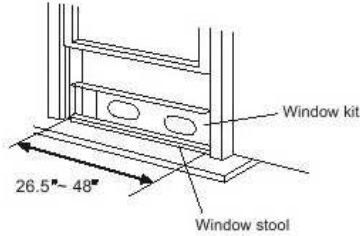

Fig.6
2. Adjust the length of the slider kit according to the width of window. Attach window slider kit to window stool, on top of foam seal. (Fig.6)